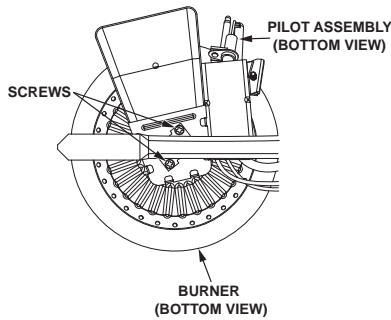

FIGURE 24.
1. Take off the burner by removing the two (2) screws located underneath the burner.
2. Check the burner to see if it is dirty or clogged. The burner may be cleaned with soap and hot water (Figure 24).
7. Re-attach the burner. Note the orientation of the burner (Figure 24.)
3. Take off the burner by removing the two (2) screws located underneath the burner. See Figure 24.